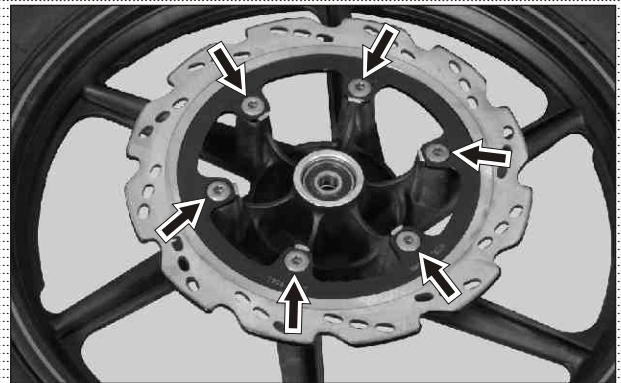

Fig. 6.1
- Remove screw special (M8 - 6 nos) from the disc plate mounting and take out disc plate from the alloy wheel front. (Fig. 6.1)